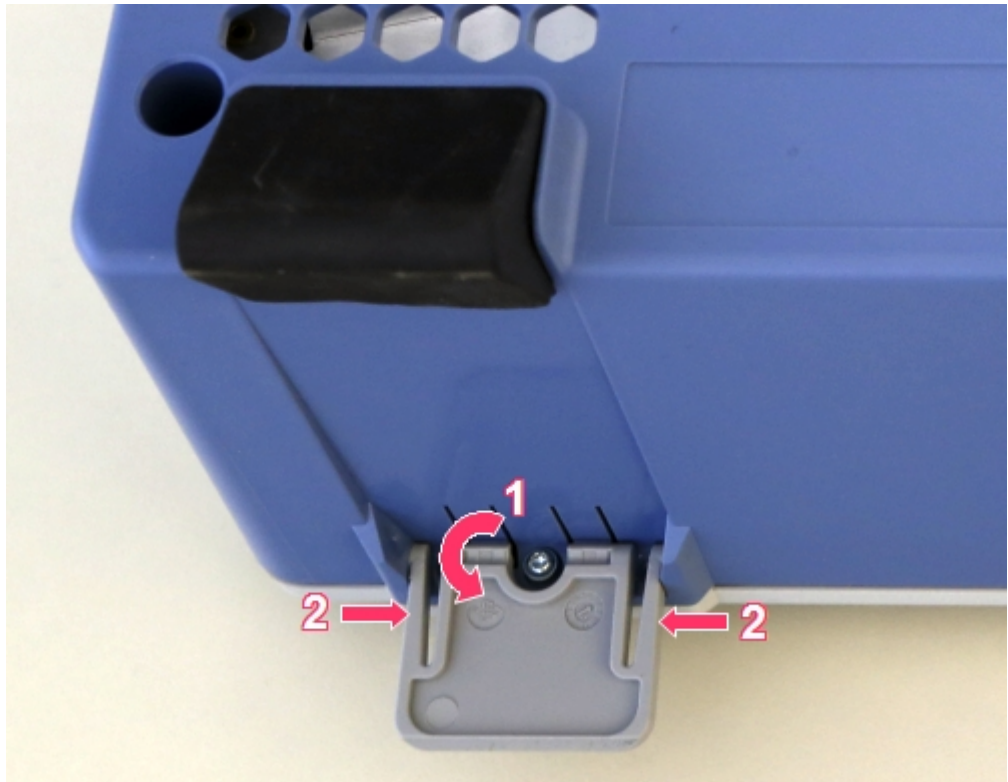

Figure 4-10: Instrument foot replacement
1. Turn down the foot (1).
2. Pinch the plastic component (2) as shown in Figure 4-10 to remove the foot.